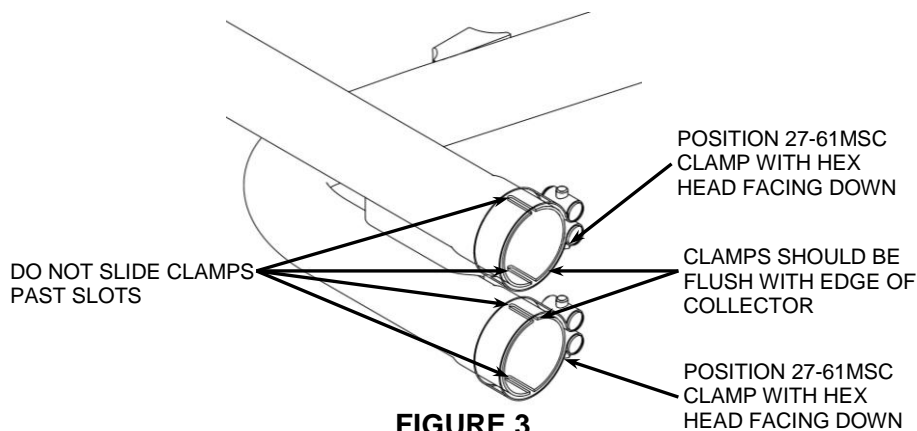

FIGURE 3
10. Position 2 of the supplied #27-61 MSC muffler clamps onto the crossover assembly inlets. The hex head of the both clamps should be inward and down. See **FIGURE 3**. (NOTE: The clamps should be flush with the end of the crossover assembly inlets when tightened. See **FIGURE 3**. If the clamps are slid past the slots on the crossover assembly inlet the clamps will not tighten properly).
26. Next fully tighten the (2) 27-61MSC clamps on the crossover assembly. (NOTE: The clamps should be flush with the end of the crossover assembly inlets when tightened. See **FIGURE 3**. If the clamps are slid past the slots on the crossover assembly inlet the clamps will not tighten properly).